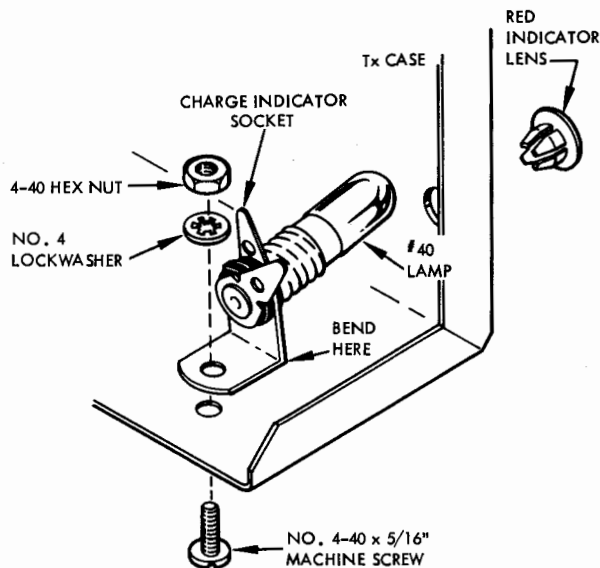

Figure 26. Charge Indicator Lamp Installation
- 145. Screw No. 40 lamp securely into charging lamp socket. (Figure 26). Secure bulb to socket with a dab of fingernail polish or RTV.